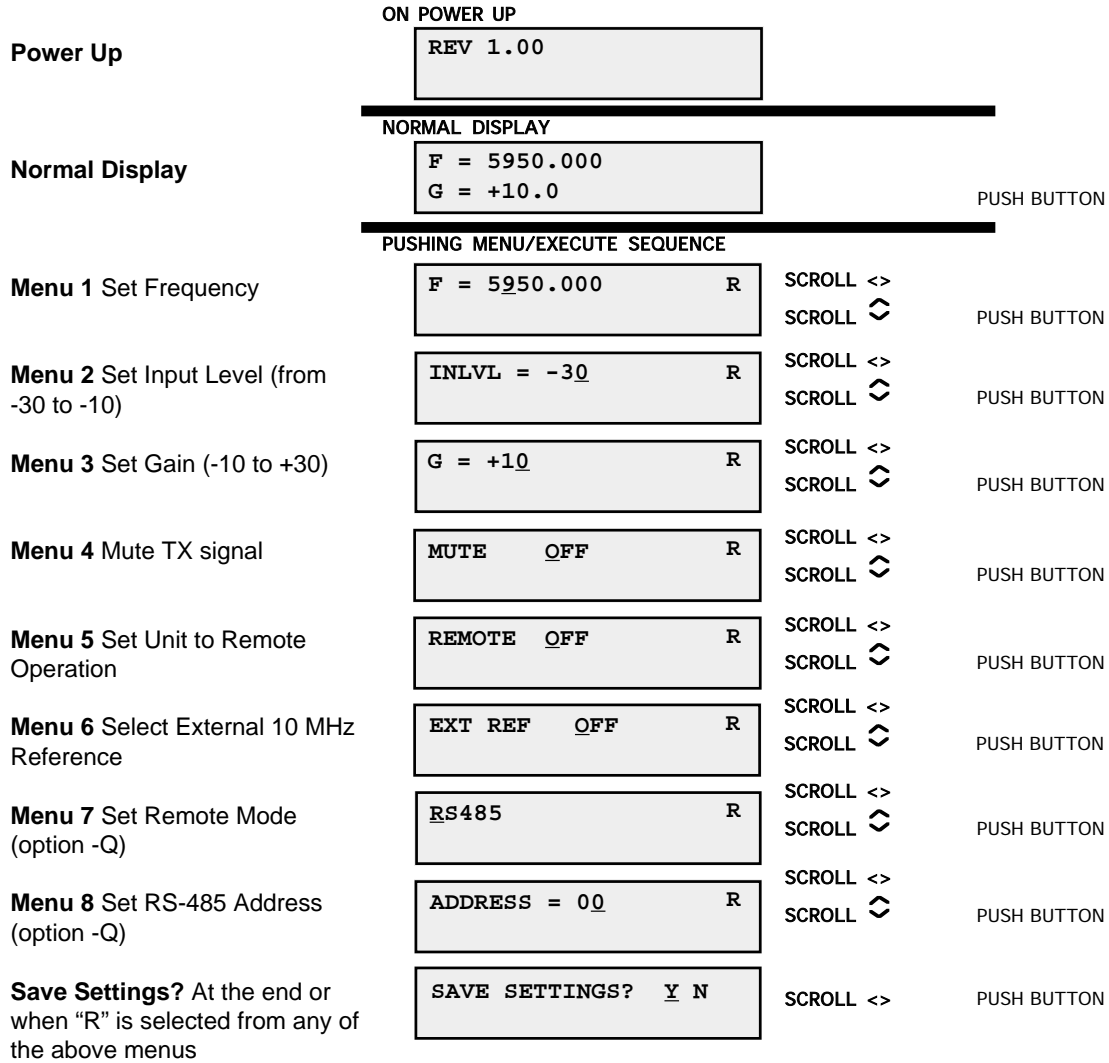

FIGURE 2.5 Menu Display and Sequence
2.5.1 Functions - This section describes operation of the front panel controls. There are three operator switches, the LCD display and alarm indicator LEDs. All functions for the equipment are controlled by these components. The functions are (see Figure 2.5):
1. Operate the Menu/Execute switch until you get to the menu item you want to change see Figure 2.5 for the sequence of menu options. The following display is for changing the upconverter frequency:
Figure 2.5 shows all the menu items and how to make changes.
Operate the Menu/Execute switch until you get to the menu item you want to change (see Figure 2.5 for the sequence of menu options). The following display is for changing the upconverter input level. This is an important setting to optimize spurious and should be made as accurately as possible:
Figure 2.5 gives the menu items and how to make changes